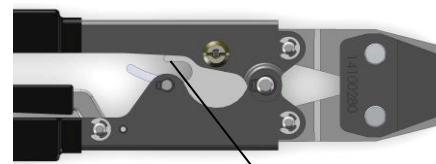

Fig. 6 Stop Point 6
1. Close handles of manual pincer to stop point (Fig. 6)